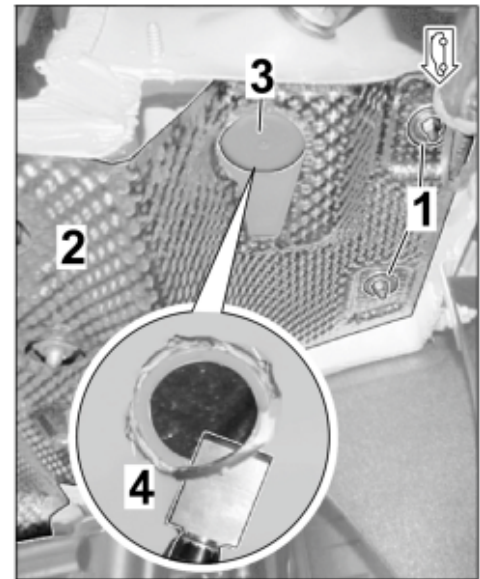

Figure 10
- 1.3.6 Detach heat shield in the rear silencer area – at the right (⇒ *Figure 10*) and bend it down slightly.
- 1.3.7 Remove dummy plug on underbody and de-burr using a spatula (⇒ *Figure 10 -Magnifier-*).